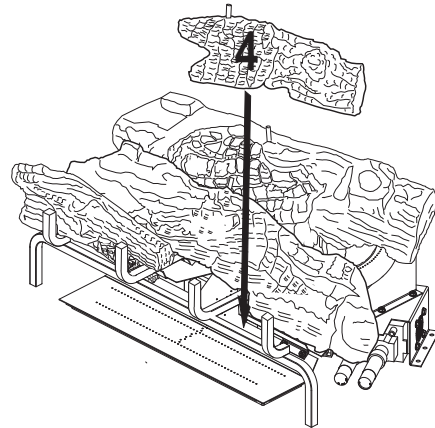

Figure 41 - Installing Log #4
4. Place the front right log (#4) onto the base assembly between the middle log (#2) and the grate. The back of the front right log (#4) will rest against the front of the middle log (#2). The notch in the end of the front right log (#4) will fit around the grate bar. See **Figure 41**.